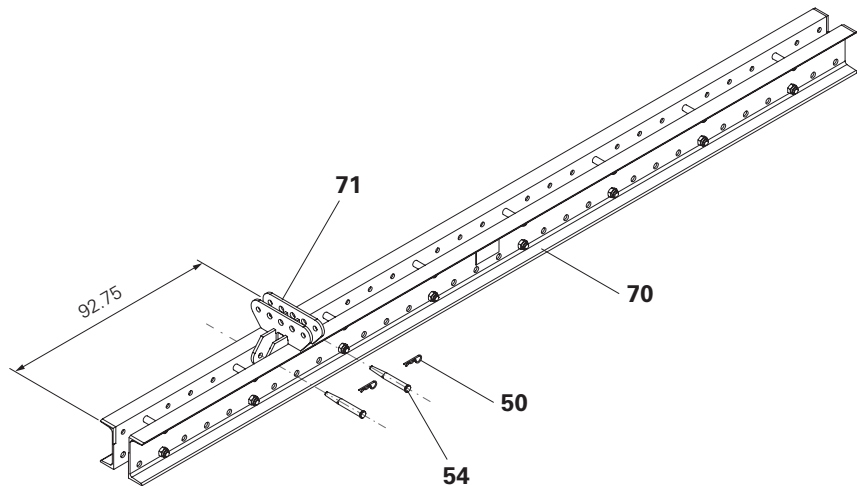

Fig. B1.03
(Fig. B1.03)
2. Fix one cross connector (**71**) to each of the climbing rails by means of filler pins (**54**) and secure with a cotter pin (**50**). (Fig. B1.03)
The position of the cross connectors is the same on all climbing rails. (Fig. B1.03)